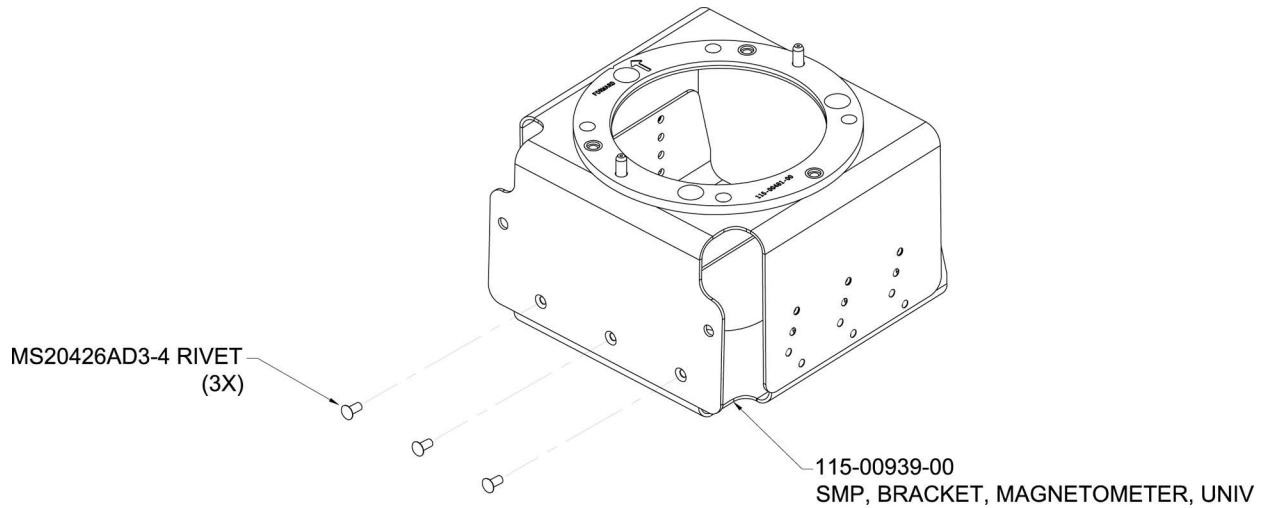
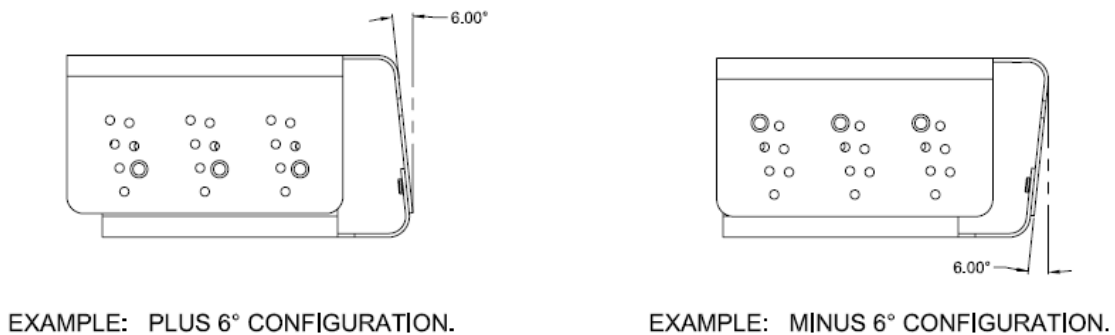

Figure B-10 Lancair IV/IV-P GMU 22 Mounting Bracket Assembly
Figure B-11 Adjusting for Wing Dihedral
- Rivet the Top Bracket Assembly (115-01017-00) to the Universal Bracket Assembly (115-00939-00) as shown in Figure B-10 and Figure B-11.